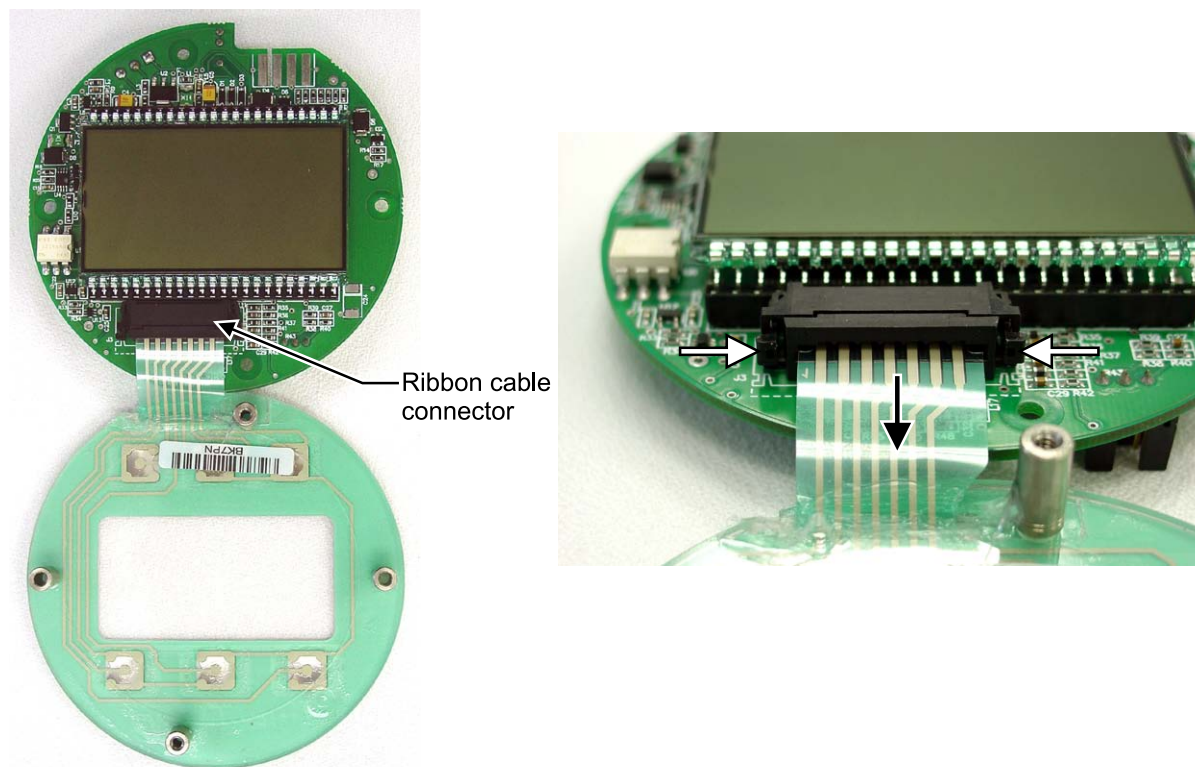

Figure 6.6—To release the ribbon cable from the connector, press in on the side tabs of the connector (white arrows) and gently pull forward (black arrow).
- a. Grasp the black clip between a thumb and forefinger (see white arrows in Figure 6.6 below).
- a. Grasp the black clip between a thumb and forefinger (see white arrows in *Figure 6.6, page 96*).